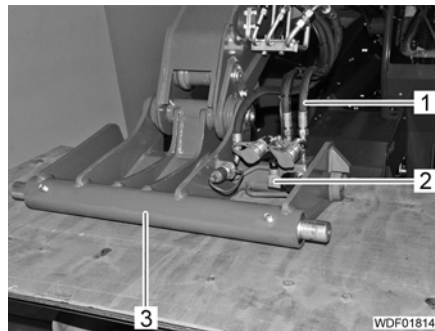

Fig. 511 Lines at tool holder (example)
- Place the tool holder (Fig. 511,3) so that it cannot tip (e.g. on a workbench).
- Unscrew and seal hydraulic lines (Fig. 511,1).
- Remove connector (Fig. 511,2) (if present) and protect contacts.